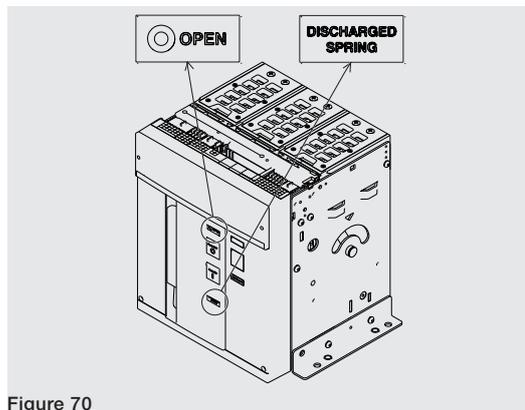

Figure 70
1. Check that the circuit-breaker is open (open / closed indicator "O - OPEN"), and check that the springs are discharged (spring signalling device "white - DISCHARGED SPRING") as indicated in Figure 70.